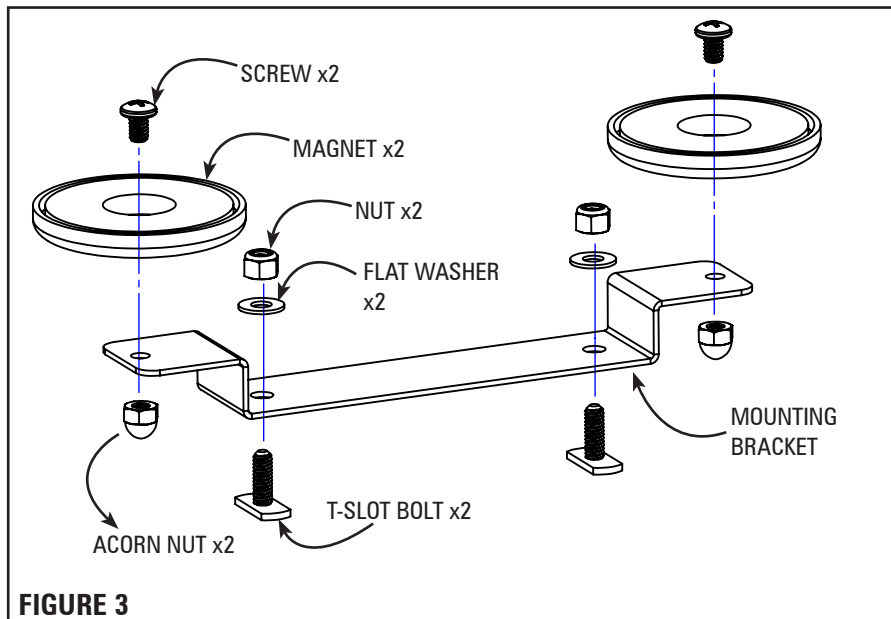

FIGURE 3
1. Place magnets over the holes in the fixed mount bracket as shown in figure 3.
MAGNET MOUNT (Figures 3 & 4)
1. Install assembled bracket to lightbar as shown in Figure 3.